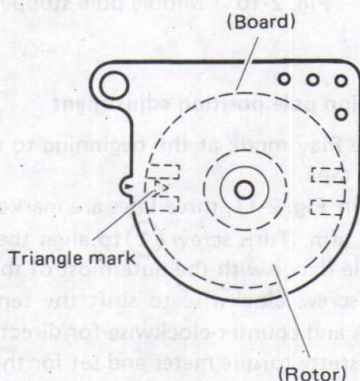
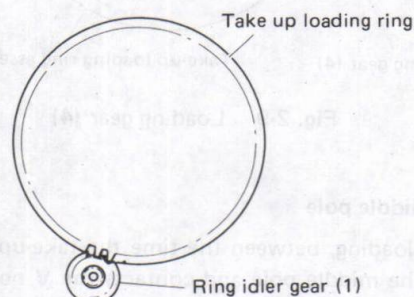
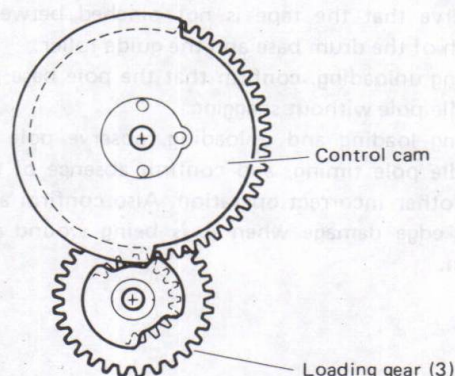

Fig. 2-4 Mode control switch
Fig. 2-7 Loading ring
Fig. 2-8 Loading gear (3)
1. In the Stop mode, confirm that the mode control switch appears as indicated in Fig. 2-4.
3. Mount ring idler gear (1) as indicated in Fig. 2-7.
4. Install ring idler gear (2). If it cannot be installed smoothly, turn the unloading ring slightly clockwise to permit installation.
5. Adjust the control cam for the Stop mode position. (See Fig. 2-4) Set the larger wedge of loading gear (3) toward the loading ring. Confirm that the edge of the smaller wedge contacts the edge of the control cam wedge as illustrated in Fig. 2-8. If necessary, turn the mode control motor slightly clockwise to allow easier installation of loading gear (3).